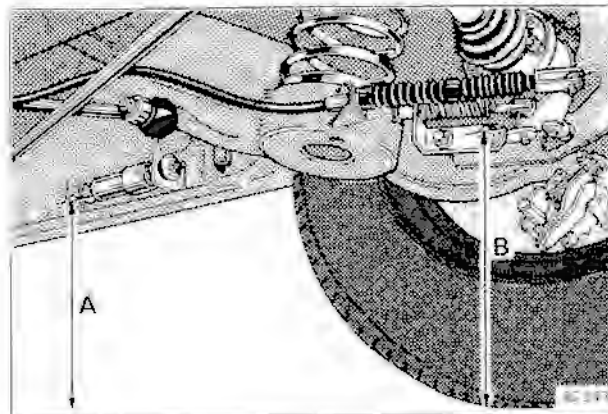

Fig. H11-1 Rear ride height setting
16. With the minimum pressure valve retaining the correct strut pressures, measure the height at points A and B as shown in figure H11-1. Both measurements should be taken from the level surface on which the car stands. Dimension A to the foremost bottom bolt securing the sub-frame mounting bracket to the body sill. Dimension B to the centre of the rear bolt attaching the parking brake linkage to the trailing arm.